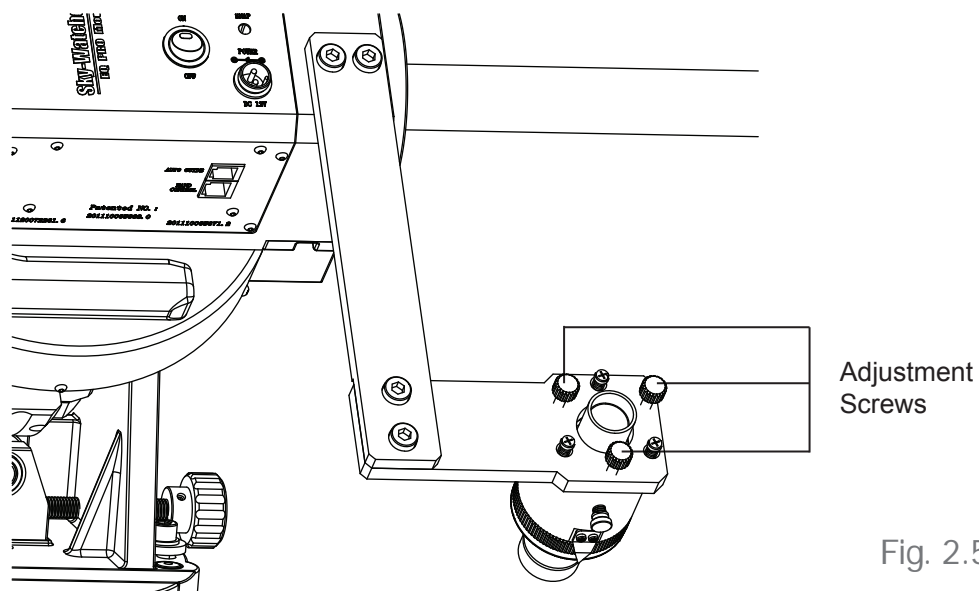

Fig. 2.5d
5. If the object deviates from the reticle, then adjust the three small adjustment screws as shown in Fig. 2.5d to eliminate the deviation to HALF.